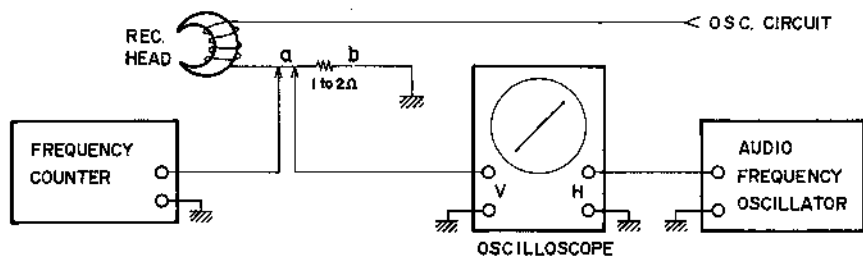

Fig. 19
- 1) Install a 1 to 2  $\Omega$  resistor in series with the recording head and connect these terminals (a)(b) to the vertical input of an oscilloscope. (See Fig. 19)
- 1) Connect a Frequency Counter to points (a) and (b) as shown in Fig. 19. Set recorder to the REC mode, and take a frequency counter reading at this time.